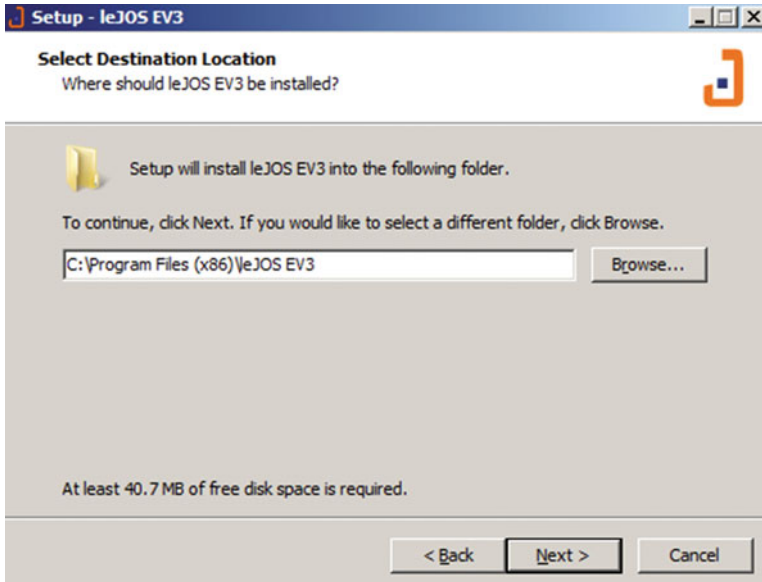

Figure 1-11. Choosing a folder to install leJOS EV3 program
4. Choose the 32-bit JDK that you installed, for example, `jdk1.7.0_45`, and then click the *Next* button. You will see the screen shown in Figure 1-11.